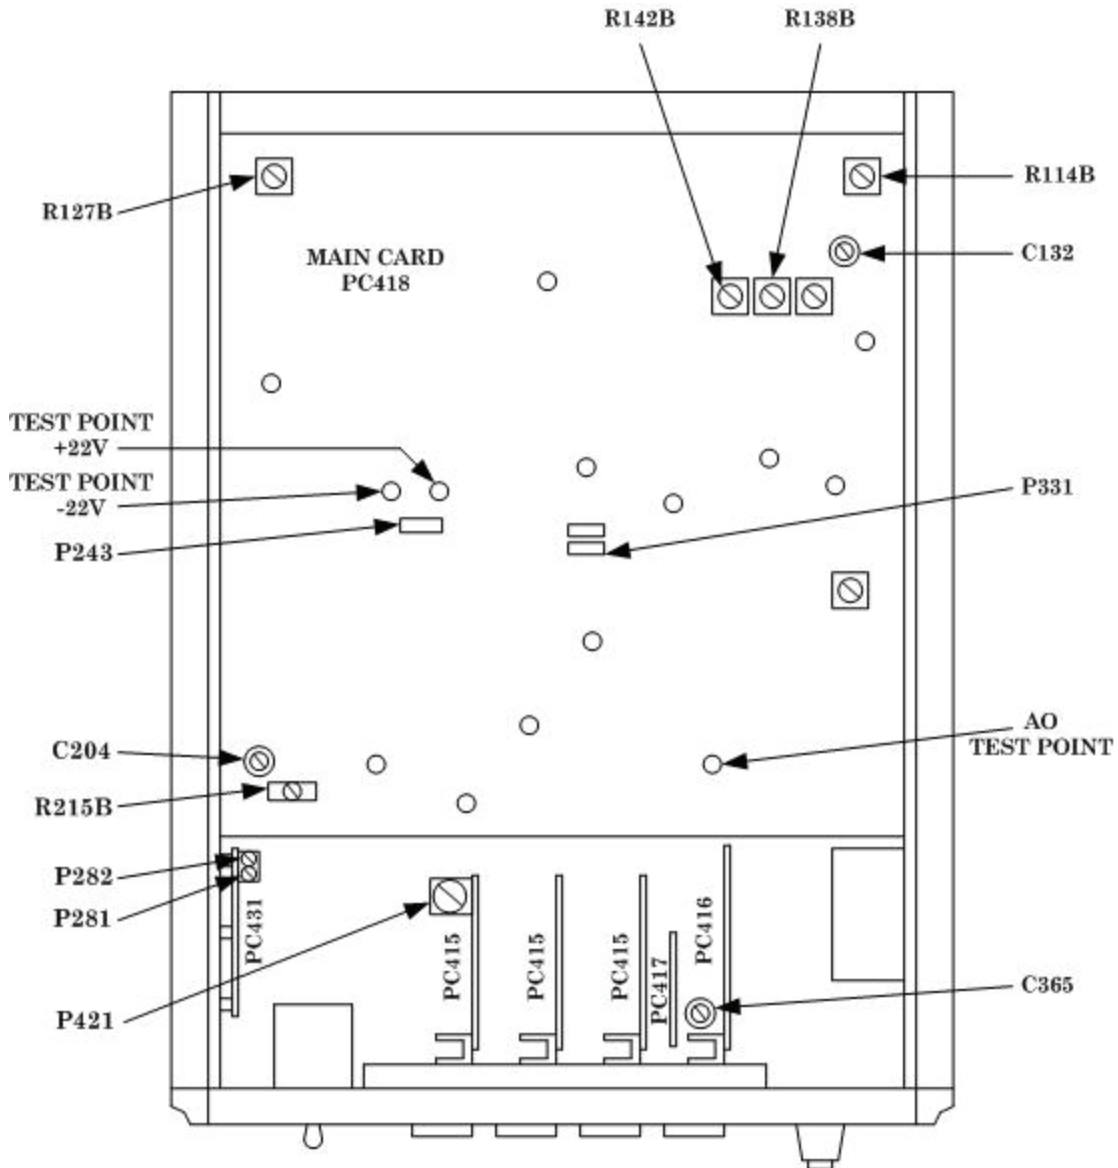
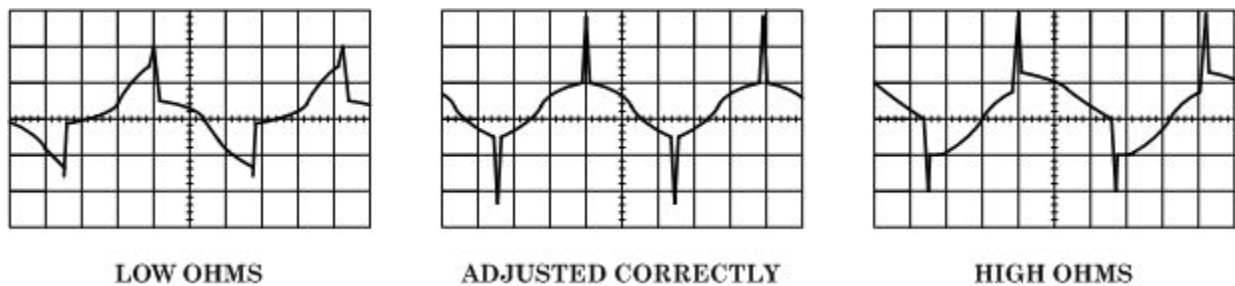
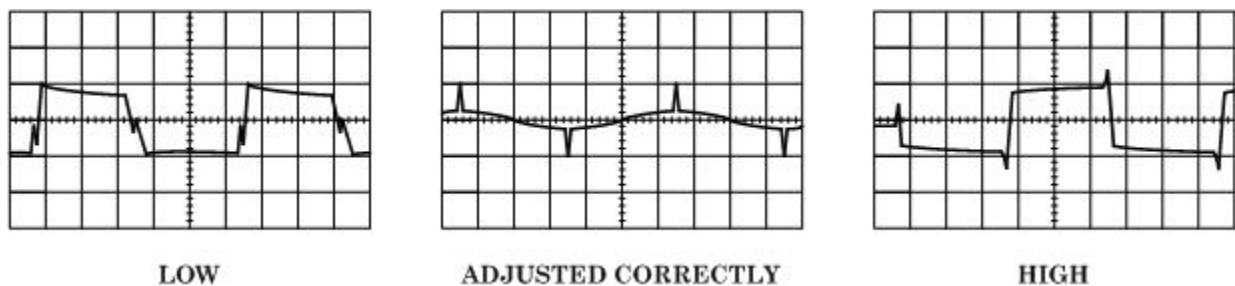

Figure 1. Test instrument - top view.
Figure 2. AO at 100 Hz (vertical sensitivity - 20 mV/cm).
Figure 3. AO at 9 Hz (vertical sensitivity 50 mV/cm).
(1) Press **FREQUENCY Hz** pushbuttons to indicate 1-0-0 and press **MULTIPLIER 1000** pushbutton.
(2) Adjust C365 (fig. 1) until frequency counter indicates 100,000 Hz (R).
(3) Position **FREQUENCY Hz** pushbuttons to indicate 4-0-0.
(4) Adjust C204 (fig. 1) until frequency counter indicates 400,000 Hz (R).
(5) Position **FREQUENCY Hz** pushbuttons to indicate 9-9-9.
(6) Adjust R215B (fig. 1) until frequency counter indicates 999,000 Hz (R).
(1) Connect oscilloscope to AO TEST POINT (fig. 1) located on PC418 (fig. 1) card using probe.
(2) Position **FREQUENCY Hz** pushbuttons to indicate 1-0-0 and press **MULTIPLIER 1** pushbutton. If square wave component in the signal present at test point AO is not less than 10 mV, adjust P331 (fig. 1) for minimum signal (R). Typical oscilloscope presentation is shown in figure 2.
(3) Position **FREQUENCY Hz** pushbuttons to indicate 0-9-0 and press **MULTIPLIER .1** pushbutton. If square wave component (fig. 3) in the signal present at test point AO is not less than 100 mV p-p, adjust P421 (fig. 1) for minimum signal (R).
(4) Press **MULTIPLIER 10** pushbutton, and adjust R142B (fig. 1) for a 0 V dc output level (R).
b. Adjustments. Adjust R138B (fig. 1) until true rms voltmeter indicates 9.000 V (R).
- (1) Connect \sim **OUTPUT** to true rms voltmeter.
- (2) Set **RMS VOLTS** vernier control fully ccw.
- (3) Press **FREQUENCY Hz** pushbuttons to indicate 9-9-9 and press **MULTIPLIER 1000** pushbutton.
- (4) Adjust C132 (fig. 1) until true rms voltmeter indicates 9.00 V (R).
- (5) Press **FREQUENCY Hz** pushbutton to indicate 1-0-0 and press **MULTIPLIER 10** pushbutton.
- (6) Adjust **RMS VOLTS** vernier control for a 9 V indication on true rms voltmeter.
- (7) Press **MULTIPLIER 1000** pushbutton.
- (8) Adjust P243 (fig. 1) until rms voltmeter indicates 9.00 V (R).
- (1) Adjust P281 (fig. 1) for a symmetrical waveform (R).
- (2) Adjust P282 (fig. 1) for optimum 0 dc level (R).
(2) Connect multimeter between +22 V test point and ground (fig. 1). If multimeter does not indicate between 21 and 23 V dc, perform **b** (1) below.
(3) Repeat (2) above for -22 V test point (fig. 1). If multimeter does not indicate between -21 and -23 V dc, perform **b** (2) below.
(1) Adjust R114B (fig. 1) to obtain +22 V indication on multimeter (R).
(2) Adjust R127B (fig. 1) to obtain -22 V indication on multimeter (R).